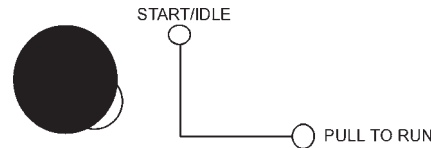

Figure 19. Throttle Handle (Idle)
1. Set the Throttle switch to "Start/Idle"(Figure 19).